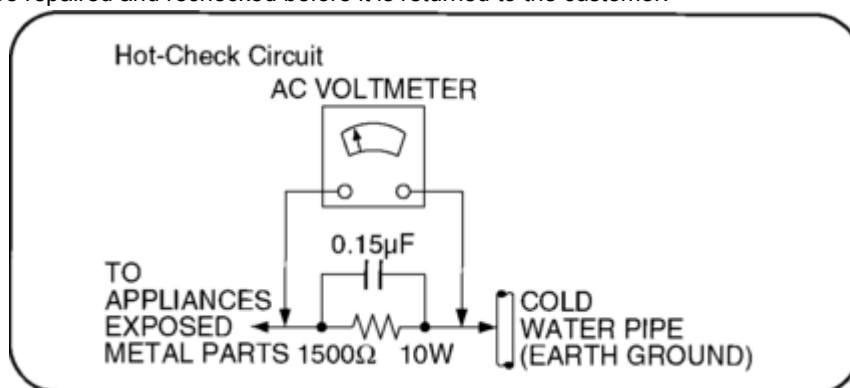

Figure 1
1.1.2 Leakage Current Hot Check (See Figure 1 .)
2. Connect a 1.5kohm, 10 watts resistor, in parallel with a 0.15 μ F capacitors, between each exposed metallic part on the set and a good earth ground such as a water pipe, as shown in Figure 1 .